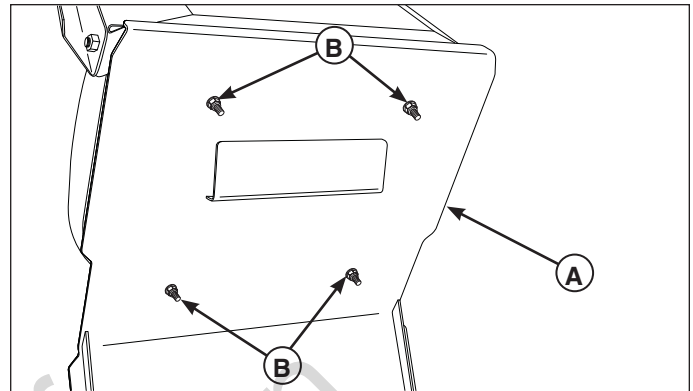

Figure 1. Remove The Existing Seat
2. Raise the seat plate (A, Figure 1) to gain access to the four (4) 5/16-18 nylock flange nuts (B) that secure the existing seat to the seat plate.
3. Remove the four (4) 5/16-18 nylock flange nuts and remove the seat from the seat plate. Retain the four (4) 5/16-18 nylock flange nuts.
1. Install the seat with suspension module onto the seat plate (**A, Figure 1**) and secure using the four (4) 5/16-18 nylock flange nuts (**B**) that were previously removed.